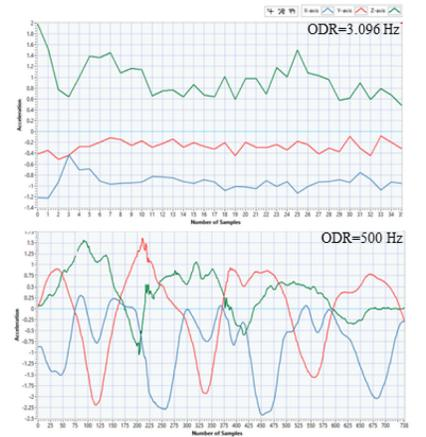

Figure 13. Output Data Rate Example
Figure 13 illustrates the impact of varying ODR settings on capturing the acceleration data when the sensor is shaken by hand. It shows that when data sampling rate is low (3.096 Hz), the captured data is not representing the actual hand shaking excitation as the sample rate is slower than the hand shake frequency (as shown in the top image of Figure 13). This slower rate may result in data loss. Conversely, when data is sampled at 500 Hz, it appears significantly faster and smoother and the captured data follows the hand shaking acceleration as demonstrated in the bottom image of Figure 13.
- ▶ **High Pass Filter.** The ADXL355/ADXL357 include an optional digital high-pass filter with a programmable corner frequency. The high-pass corner frequency, where the output is attenuated by 3 dB, is related to the ODR, and the HPF_CORNER setting in the filter register (Register 0x28, Bits[6:4]). The high-pass filter is disabled by default. Figure 13 shows the HPF settings, which are proportional to the ODR.